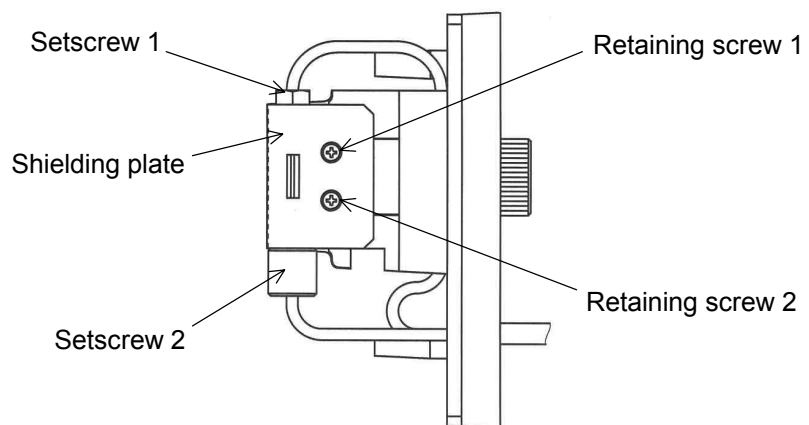

Fig. 4-11 Flow Cell Unit
(3) Assembly of Flow Cell
- (a) Assemble the flow cell into the cell holder in the orientation shown in Fig. 4-11 and fix it with the cell clamp.
NOTE: Take care about the orientation of the polished surfaces of the flow cell when putting it into the cell holder (see Fig. 4-11). A mistake in the orientation may preclude obtaining the proper performance from the instrument.